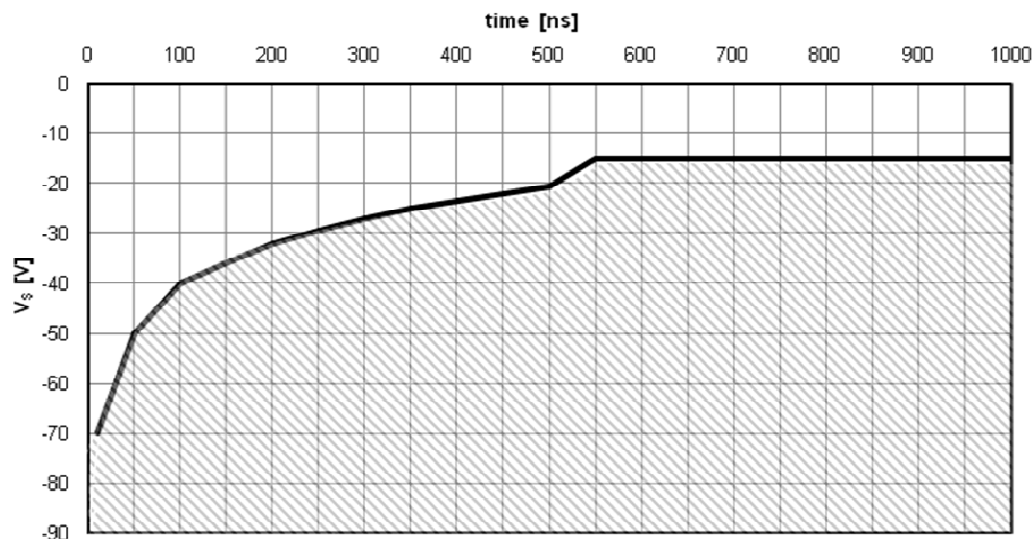

Figure 28: Negative V_S transient SOA for IRS233(0,2)(D)
International Rectifier's HVICs have been designed for the robustness required in many of today's demanding applications. An indication of the IRS233(0,2)(D)'s robustness can be seen in Figure 28, where there is represented the IRS233(0,2)(D) Safe Operating Area at $V_{BS}=15V$ based on repetitive negative V_S spikes. A negative V_S transient voltage falling in the grey area (outside SOA) may lead to IC permanent damage; viceversa unwanted functional anomalies or permanent damage to the IC do not appear if negative V_S transients fall inside SOA.